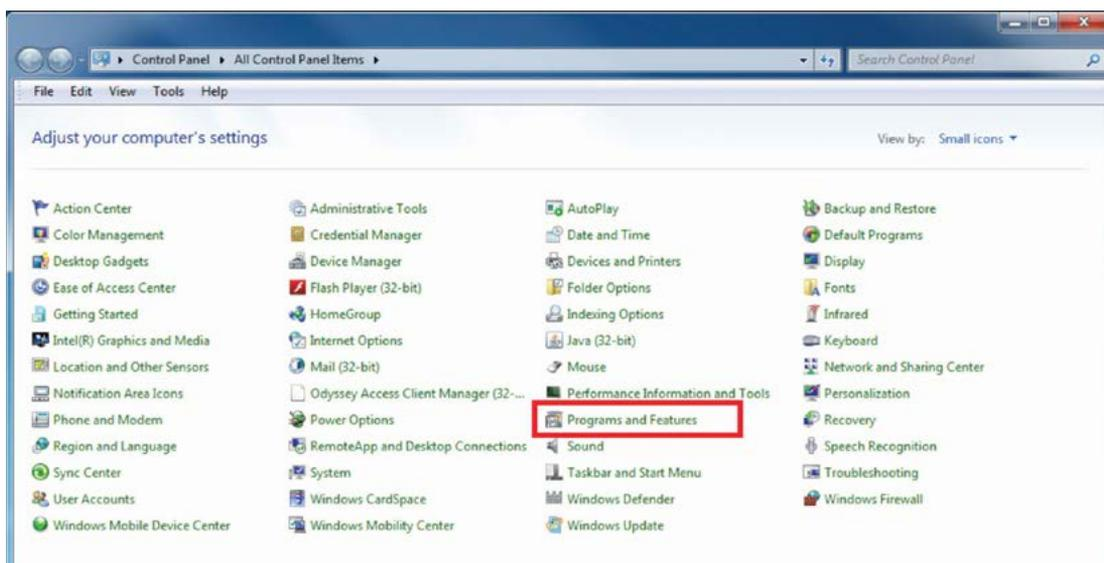

Figure 23: Programs and Features
2. Within the Control Panel, double click for “Programs and Features” as shown in **Figure 23**.